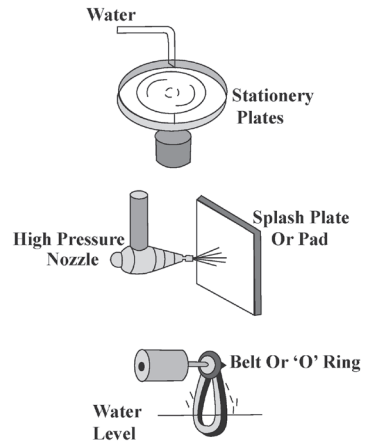

Figure 9-37. Atomizing Humidifiers
- Atomizer (Figure 9-37), where water is broken into small particles by an atomizing device and released into the supply or return air ductwork.